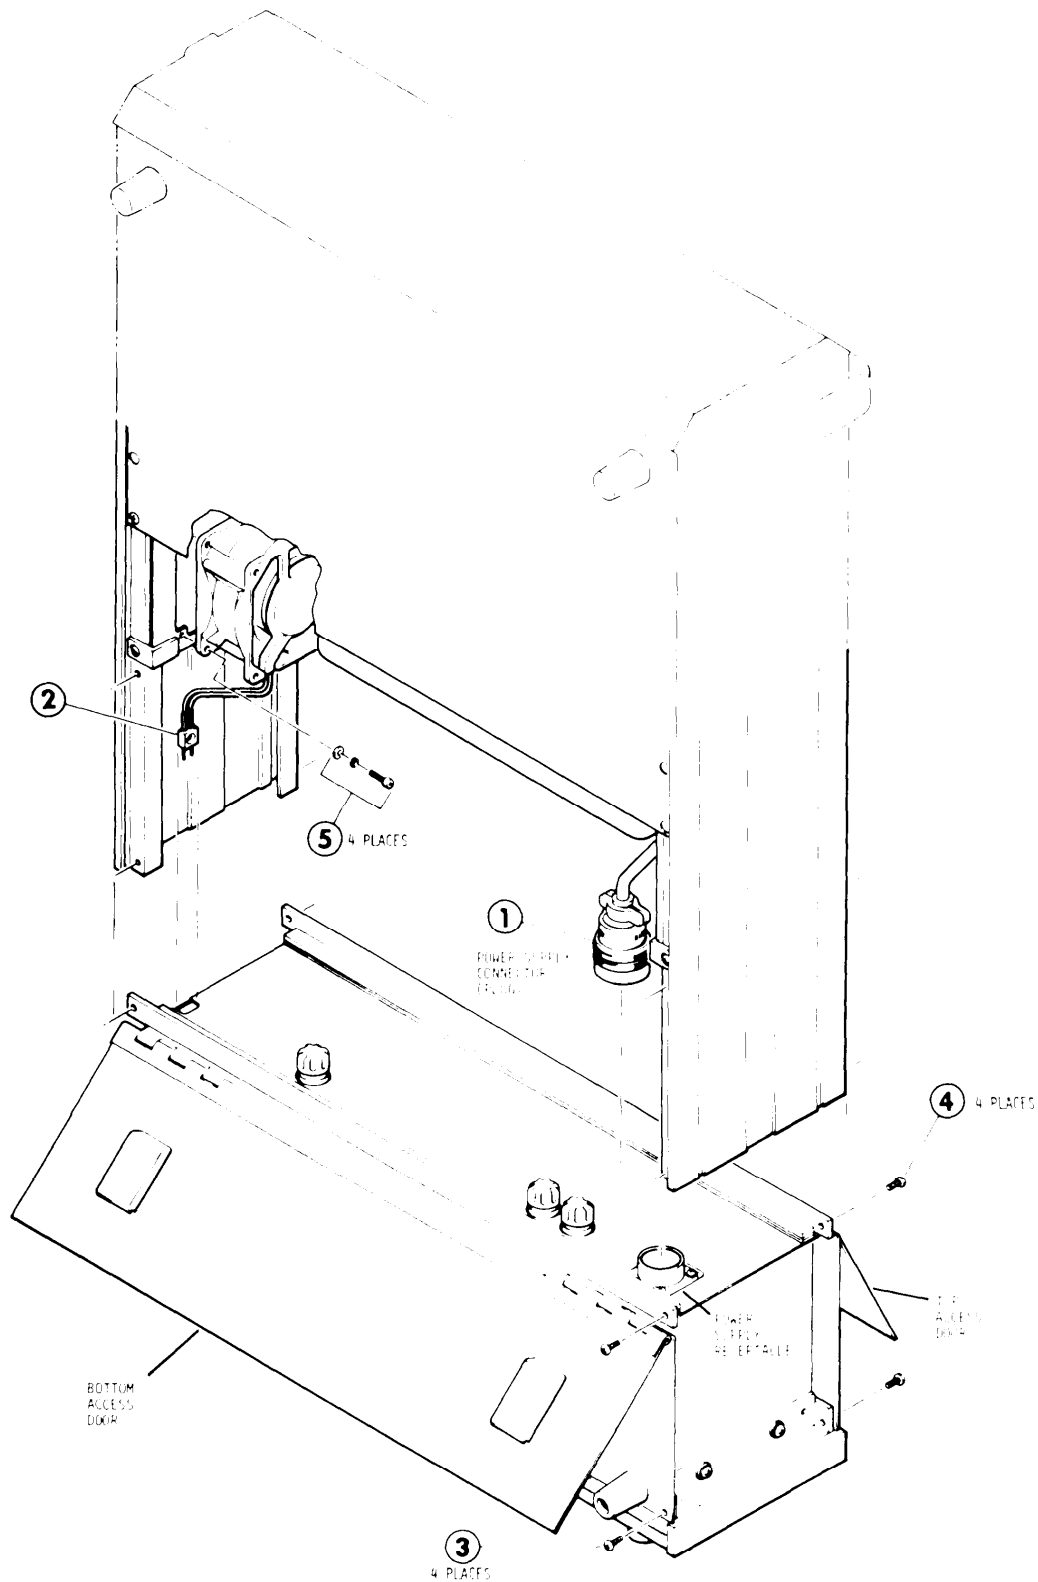

Figure 5-3. Power Supply Removal
The power supply is attached on the rear of the Exerciser. Refer to Figure 5-3, Power Supply Removal, for the following procedures.
3. Install four screws (3) on the bottom and four screws (4) on the top of the Exerciser frame assembly to secure the power supply in place. (See Figure 5-3, Power Supply Removal.)
4. Connect power connector (1) on the right side.
5. Connect blower motor connector (2) on the left side. The blower connector is a two-prong connector that pushes straight in from the top of the Power Supply Assembly.
2. Remove four attaching hex screws, lock washer, and flat washer (5). (See Figure 5-3, Power Supply Removal, for location of attaching hardware.)
1. Attach blower to the left side panel of the Exerciser frame assembly using four attaching socket head cap screws, lock washer, and flat washer (5). (See Figure 5-3 for proper locations.)